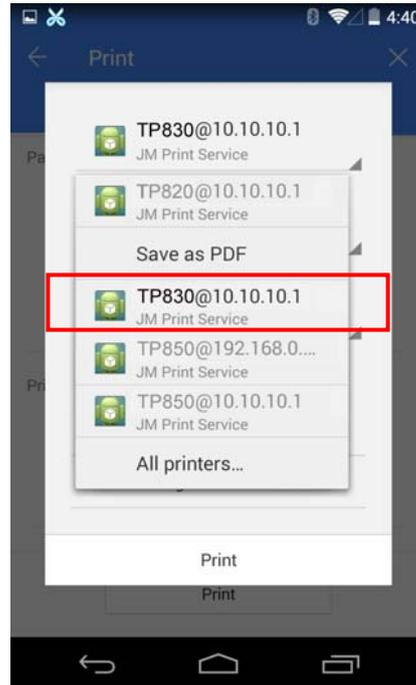

Figure 30
- 4.6 Select “TP830@10.10.10.1”, as shown in Figure 30;